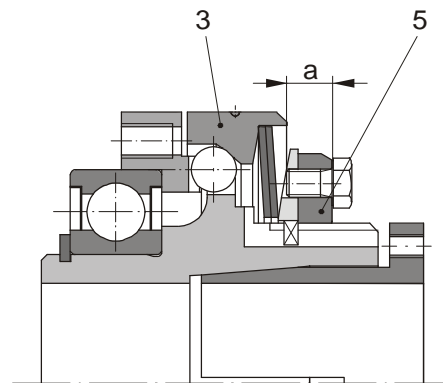

Fig. 7
- b) Loosen the hexagon head screw (10) in the adjusting nut (5).
c) Turn the adjusting nut (5) using the engraved adjustment scale (Fig. 7) clockwise or anti-clockwise using a face wrench until the required torque is reached.
After de-installing the clutch (e.g. due to cup spring replacement or changes to the cup spring layering), the clutch must be re-adjusted and calibrated using dimension "a" (see Table 2 and Fig. 7).